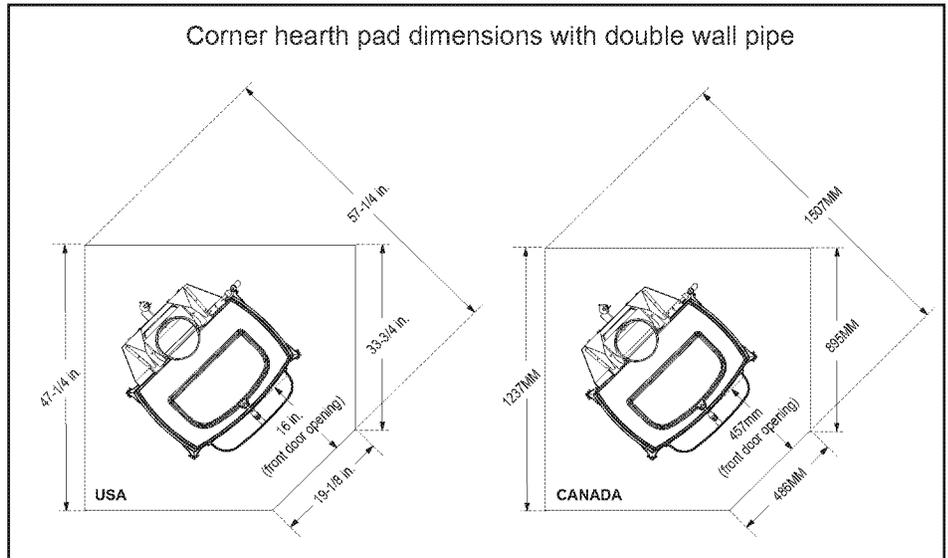

Figure 3.8
In Canada, similar floor protection must be provided 18" (457 mm) in front and 8" (203 mm) from the sides and rear of the appliance. Figure 3.8
***EXCEPTION:** Non-combustible floor protections must extend beneath the flue pipe when installed with horizontal venting and extend 2" (51 mm) beyond each side. See Figure 3.8.